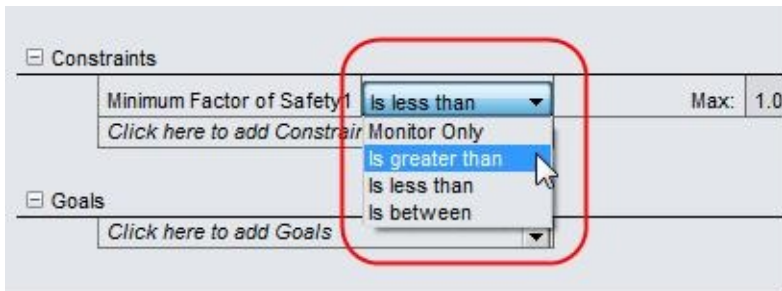

Figure-26. Option to be selected
- Click on the down arrow next to **is less than** field and select the **Is greater than** option; refer to Figure-26.